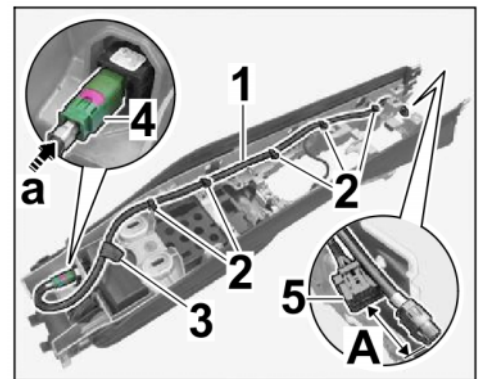

Figure 12
- 4.4 Connect electric plug connection ⇒ *Figure 12-4-* (⇒ *Figure 12-a-*).
It must project ⇒ *Figure 12* by approx. 40 mm/ 1.6 in on the standard connector ⇒ *Figure 12-5-*.